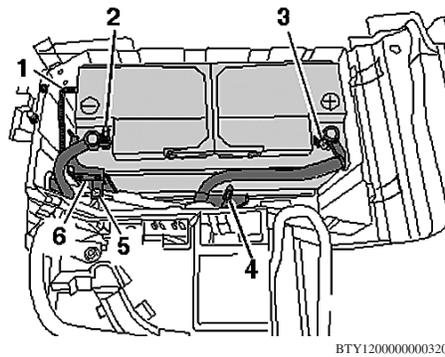

Fig. 5 Battery removal
14. Disconnect ground cable (2) and positive cable (3) at battery, **Fig. 5**.
15. Disconnect central gas venting system tube (1), **Fig. 5**.
16. Remove threaded pins (4) with battery bracket, **Fig. 5**.
17. Remove screw (5), and remove upper battery bracket (6), **Fig. 5**.
2. **Torque** upper battery bracket (6) screw (5) to 79 inch lbs., **Fig. 5**.
3. Insert battery bracket, and **torque** threaded pins (4) to 14 ft. lbs.
4. Connect positive cable terminal clamp (3) to battery positive terminal, and **torque** nut to 53 inch lbs.
5. Connect ground cable terminal clamp (3) to battery ground terminal, and **torque** nut to 53 inch lbs.
6. Connect central gas venting system tube (1), **Fig. 5**.